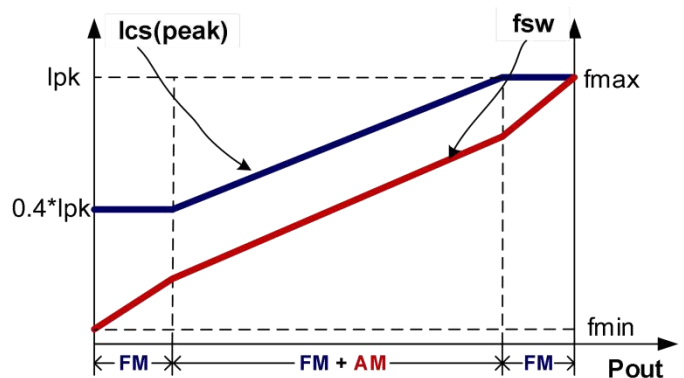

Fig 4
To meet the tight requirement of averaged system efficiency and no-load power consumption, a hybrid of frequency modulation (FM) and amplitude modulation (AM) is adopted in DP2312HTFA which is shown in the Fig 4.